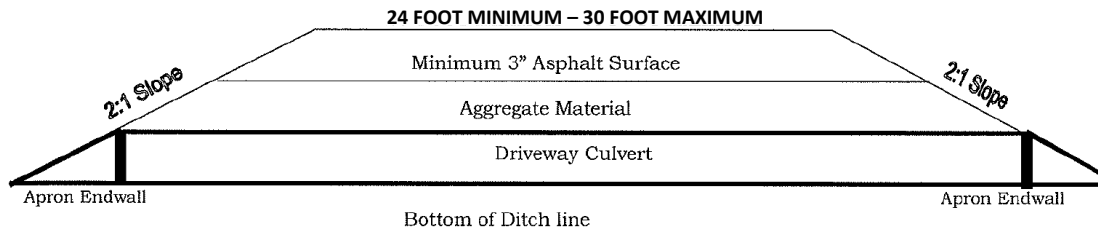

Figure 2-1
1. The side slope grade must be no less than two to one (2:1) as per the diagram (Figure 2-1) below: